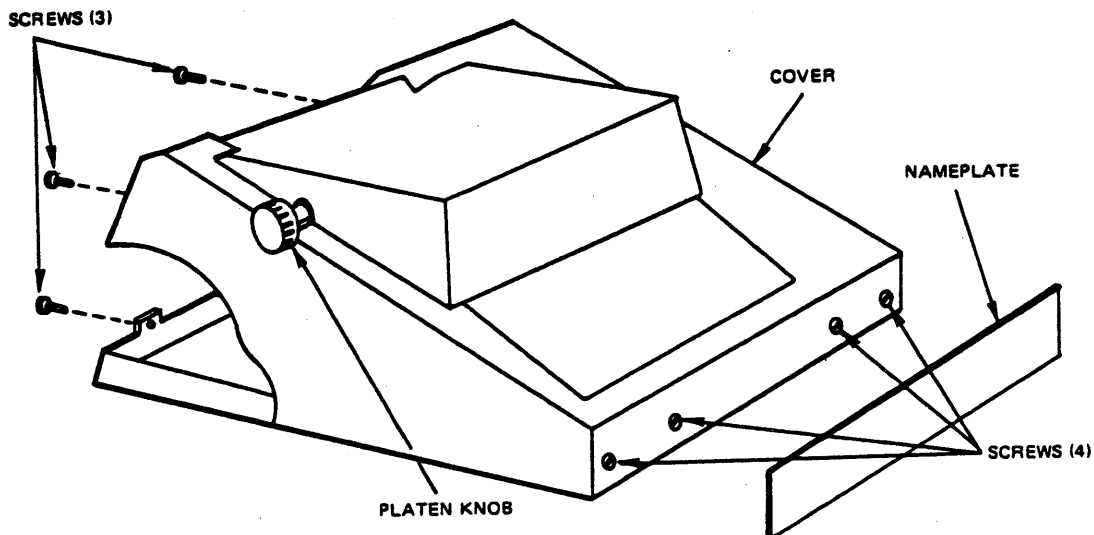

Figure 3-38 KSR-33 Cover Removal
To remove the cover, proceed as follows (see Figure 3-38):
5. Replace the cover on KSR-33. Tighten the screws shown in Figure 3-38. Replace the trimplate, control knob, and platen knob.